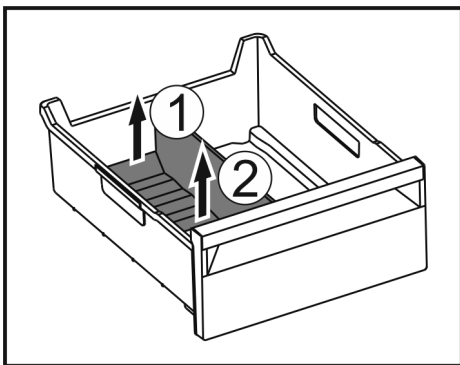

Fig. 69
- ▶ Lift the rear part of the ice compartment divider. Fig. 69 (1)
- ▶ Remove the ice compartment divider upwards. Fig. 69 (2)